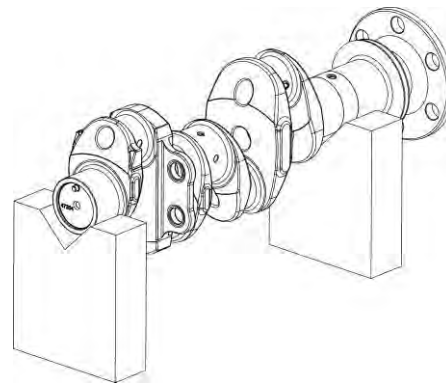

Figure 9
- J. Put the crankshaft in a suitable V-block-type fixture as shown in Figure 9.